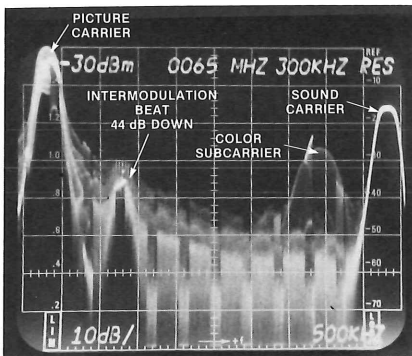

Figure 2-2. Intermodulation measurement.
3. Once a beat signal has been located, it can be measured by comparing the peak video carrier level to the peak beat level (figure 2-2).